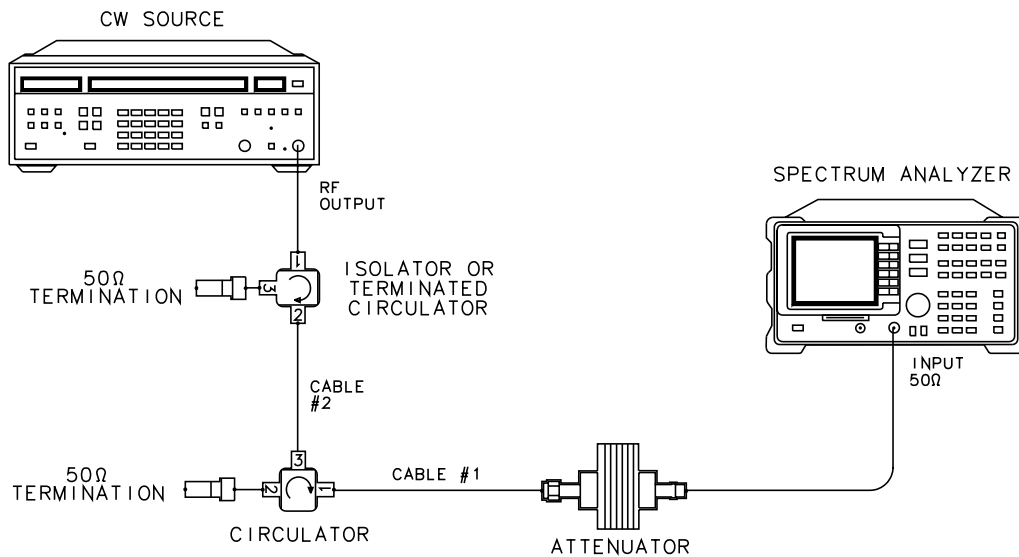

Figure 27 Test Setup for CW Source Adjustment
- 5 Read the message that appears on the display and connect the equipment as described in the text. Refer to Figure 27 on page 69 for the equipment setup.